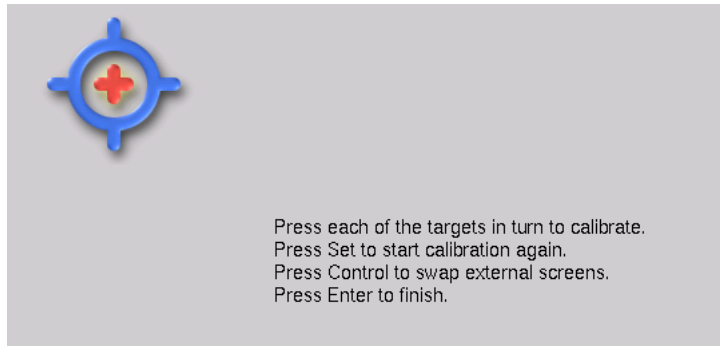

Figure 6.4. The Calibration Screen
2. A target will appear sequentially in each corner, which you should touch in turn; see Figure 6.4, "The Calibration Screen". The calibration is complete when you have done all four corners, press Enter to finish.